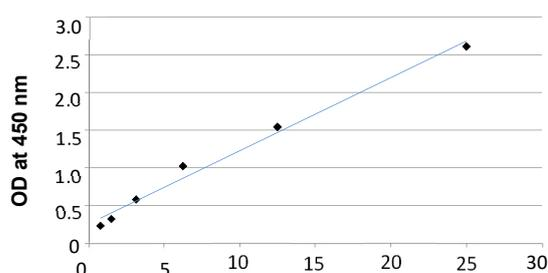
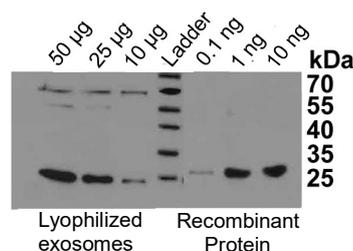

Figure 4. CD9 titration of plasma healthy donor exosome standards.
Figure 5. CD9 marker detection by Western Blotting on lyophilized exosomes from human plasma and the recombinant CD9 protein.
10. Sensitivity: The sensitivity of the ExoGenie was compared to Western blot. The data reported in Figure 4 and 5 demonstrate that the sensitivity of the ExoGenie is higher than that of Western blotting. Figure 5 shows that 10 µg of lyophilized exosomes is equivalent to 0.1 ng of recombinant exosomal protein (CD9). Since the standard curve's lower concentration is 0.39 µg of lyophilized exosomes (Figure 4), the sensitivity of our test is around 39 µg of protein equivalent.